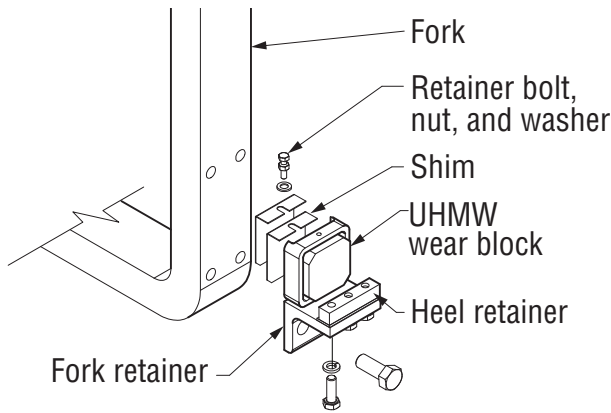

Figure 4-5, Alignment, Inner Fork Hook
1. Loosen and back off retainer nut. Remove retainer bolt. (Figure 4-5)